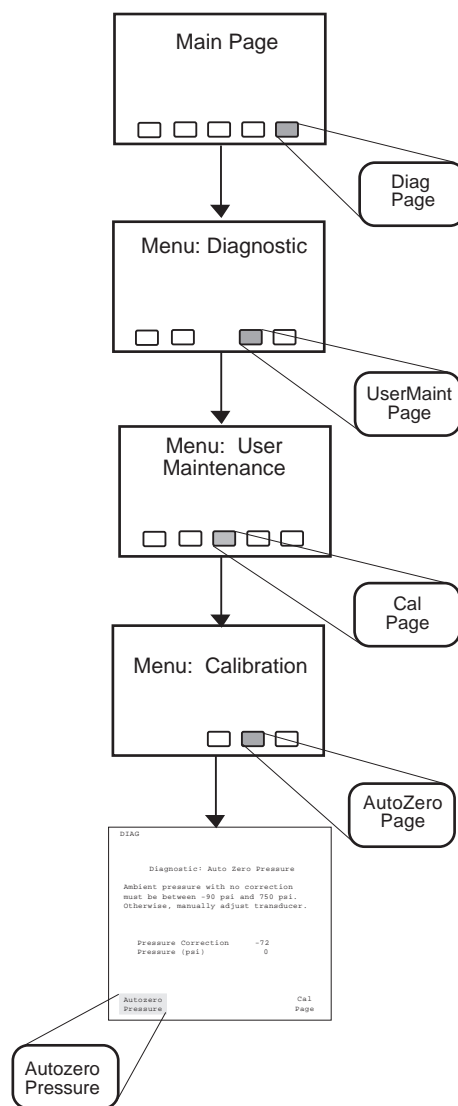

Figure 3-5 Path to Auto Zero Pressure Page
3. To auto zero the transducer, press the keys as outlined in the flowchart below (Figure 3-5).